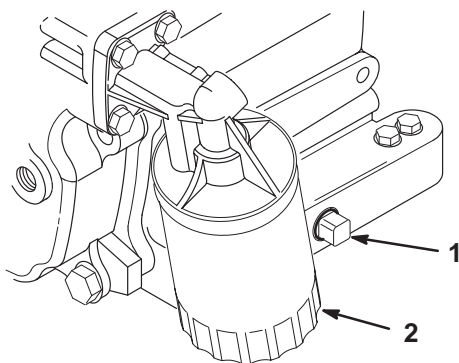

Figure 18
5. Remove the drain plug (Fig. 18) and let the oil flow into a drain pan. When the oil stops, install the drain plug.
2. Remove the existing oil filter (Fig. 18). Apply a light coat of clean oil to the new filter gasket.